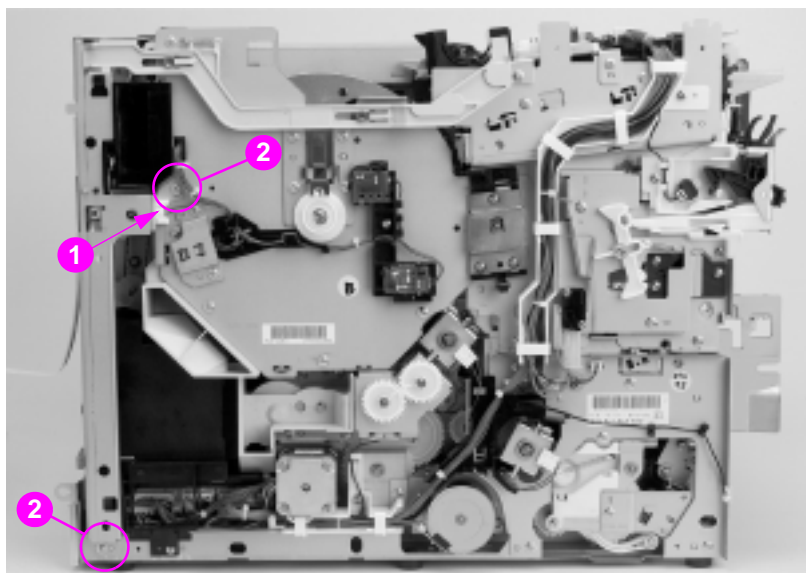

Figure 6-55 Left side fan removal and replacement (1 of 3)
- 4 Disconnect the cable shown in Figure 6-55 (callout 1).
- 5 Remove the three screws from the left rear sheet metal fan cover shown in Figures 6-55 and 6-56 (callout 2) and remove the sheet metal housing the fan.